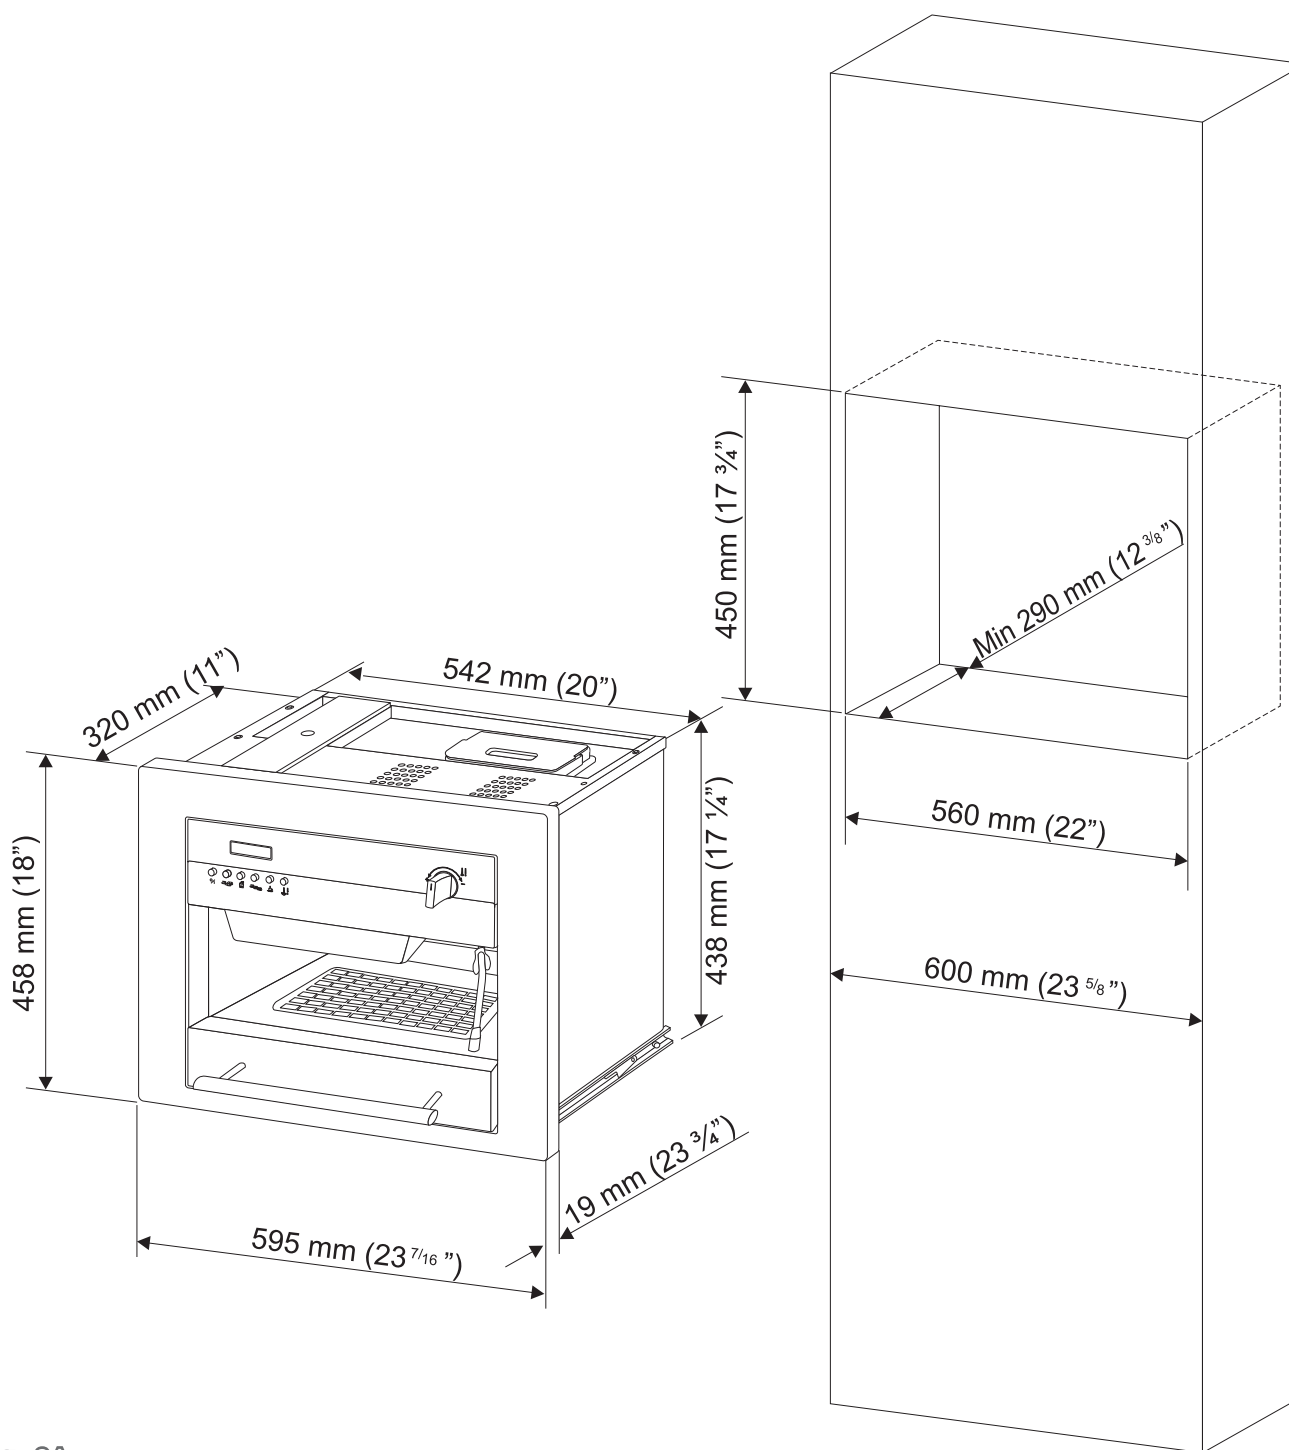

Fig. 2A
1. Check to make sure that the opening for housing the machine has the correct dimensions (Fig.2A/B).